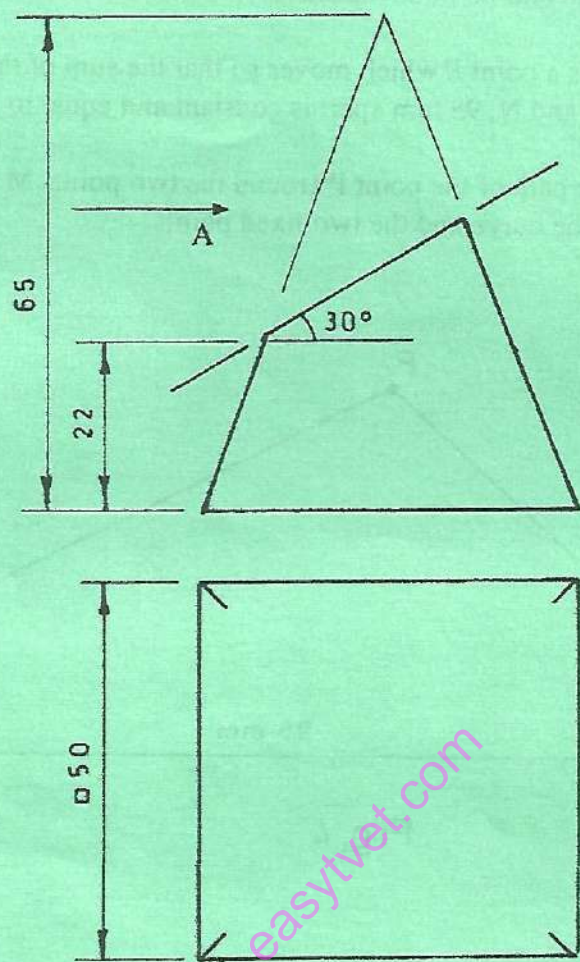

Fig. 3
7. Figure 3, shows an elevation and plan of a right square pyramid cut obliquely at  $30^\circ$ .